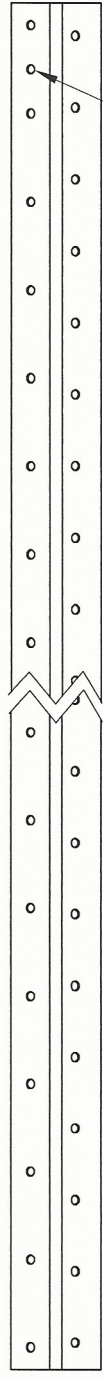

FIGURE 2:
Step 2: Machine countersink the HS-1220-L AST Control Horn for a 3/32 inch rivet per call-out in Figure 2.
Step 3: Orient the AST Control Horn to pass through the AST control horn cut-out. Rivet the HS-1220-L AST Control Horn to the inboard HS-1222 AST Rib as shown in Figure 2.